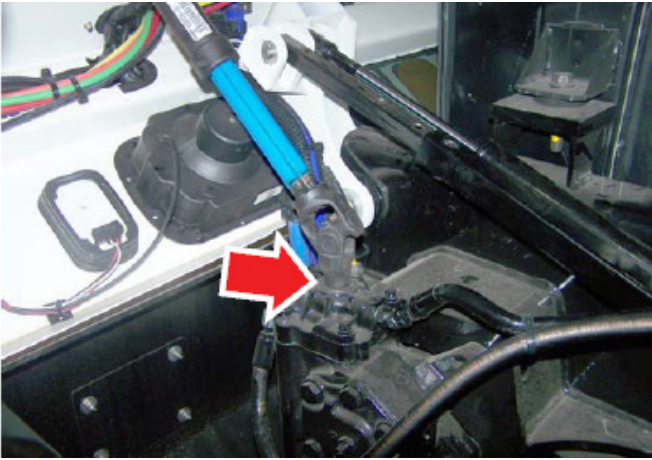

Figure 4
- 4. Make an index mark on both the steering column shaft and the steering gear input shaft where it meets the steering gear to ensure proper reassembly (See Figure 4).